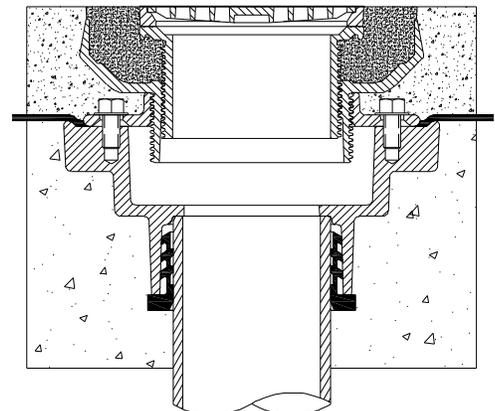

Fig. 12S
- 12. Fill in shroud with cement or grout. Ensure to completely fill in around entire head assembly flush with finished floor. Remove protective label once construction is complete. See Fig. 12S